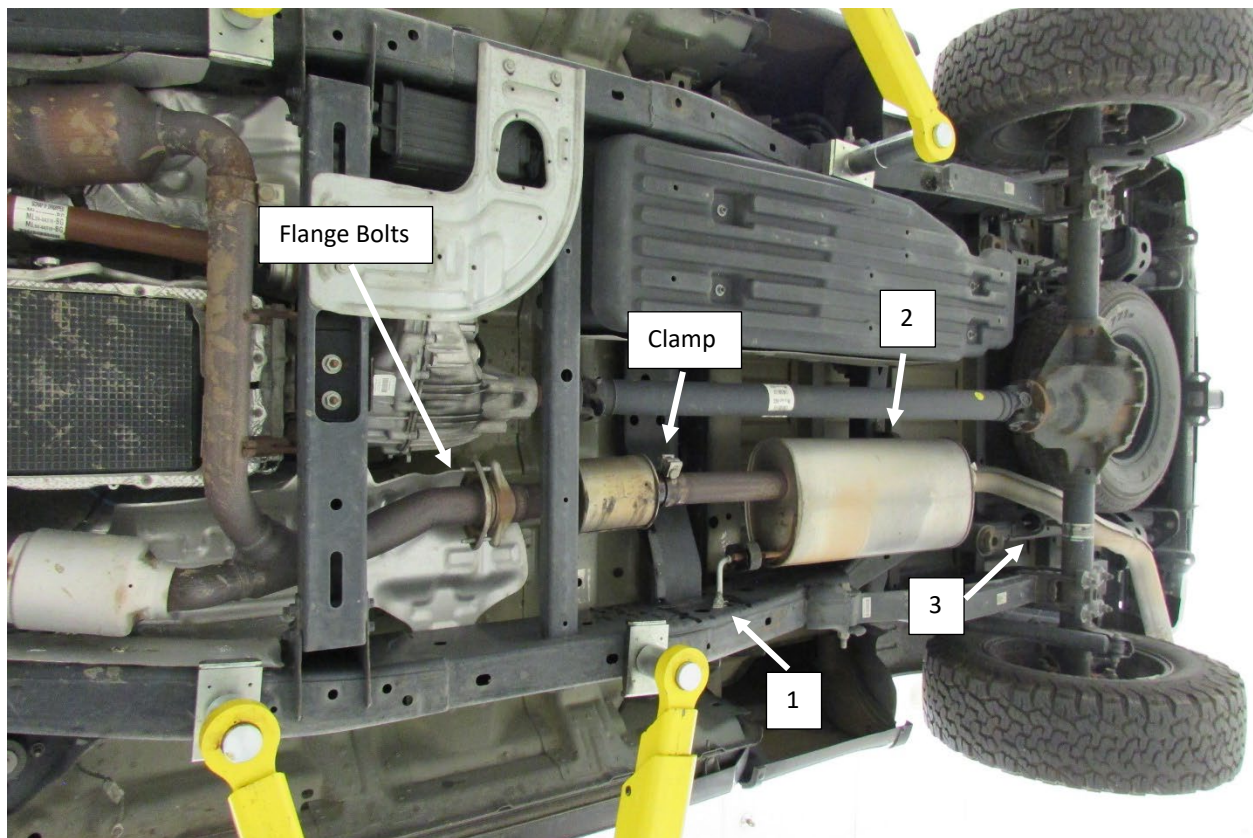

Figure.23
1. Loosen the 15mm nut at the band clamp on the muffler inlet pipe. Spray the connection with penetrating oil. **Fig.23**
3. Remove the bolts from the (X3) exhaust hanger brackets (1), (2),(3). **Fig. 23**
4. Remove the (2x) bolts from the flange at the resonator and remove the resonator assembly. **Fig.23**
3. Remove the (x2) OEM muffler hanger (1) clip nuts from the frame at the location shown. **Fig 23/24**
12. Remove the OEM Rear muffler hanger clip nut from the frame. **Fig.23**